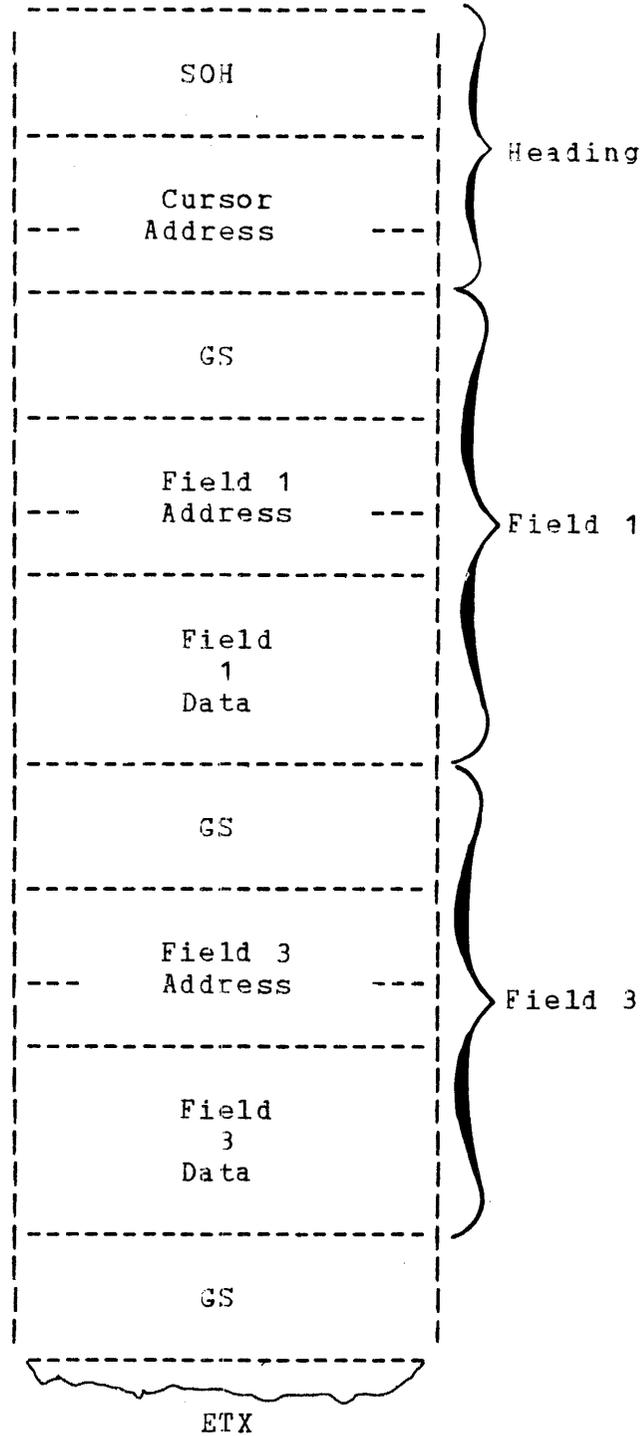
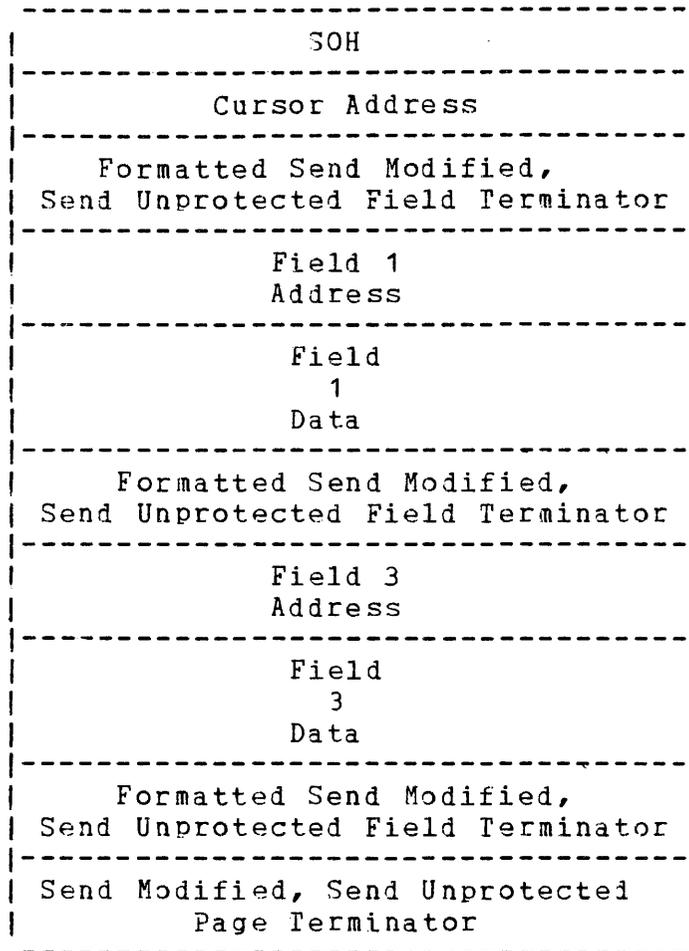

Figure 5-10 Read Modified Format
Figure 5-11 Read Modified Format
4. Read Modified. This operation is legal only on a formatted screen. Read modified transmits only those fields for which the modified data tag is set in the field attribute character. A modified data tag is set when data is entered in a non-light pen field or if the designator character of a light pen field has been altered by light pen detection. Transmission starts with an SOH, followed by a 2-character cursor address sequence, and then the modified fields. Each field is preceded by a GS character and the buffer address of the first data character in the field for the Model 1200. For the Models 1250/1251, the Formatted-Send Modified, Send Unprotected-Field Terminator precedes each field. Nulls are suppressed. Model 1200 terminates transmission with an ETX character; Models 1250/1251 use the Send Modified, Send Unprotected Page Terminator. These formats are illustrated in Figures 5-10 and 5-11 where it is assumed that fields 1 and 3 have been modified, and field 2 has not. Figure 5-11 also assumes that there are no light-pen fields. Light pen fields transmit only the address of the field rather than the address and the data.